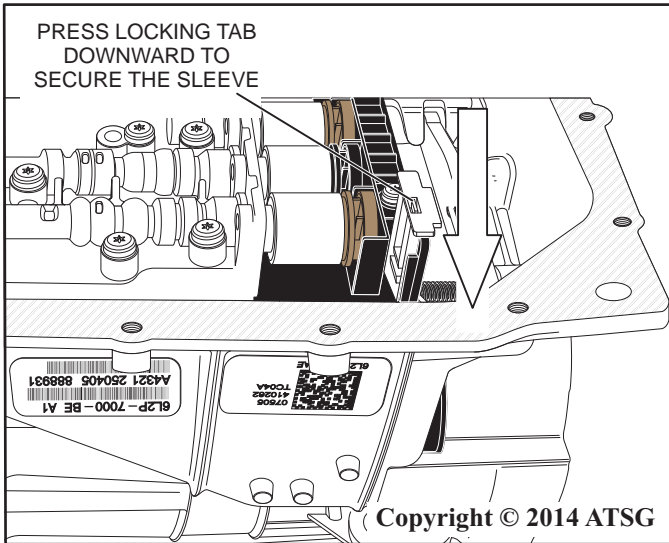

Figure 157
70. With the bulkhead electrical connector sleeve into the transmission press downward on the locking tab to secure the sleeve as shown in Figure 157. The locking tab will not press down if the sleeve is not correctly and fully installed.